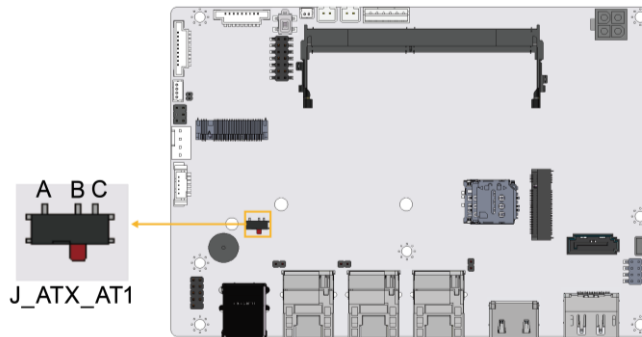

Figure 3-40: AT/ATX Power Mode Switch Locations
- CN Location:** See **Figure 3-40**